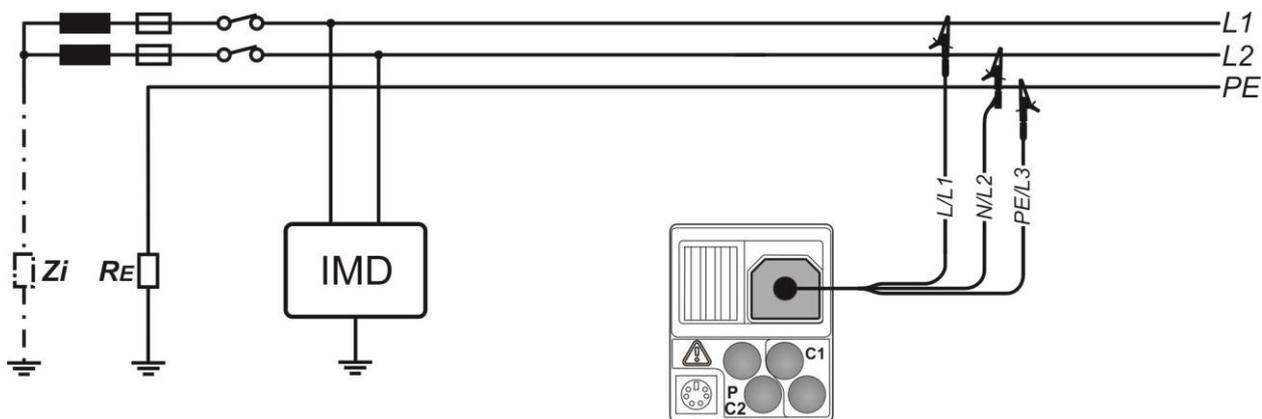
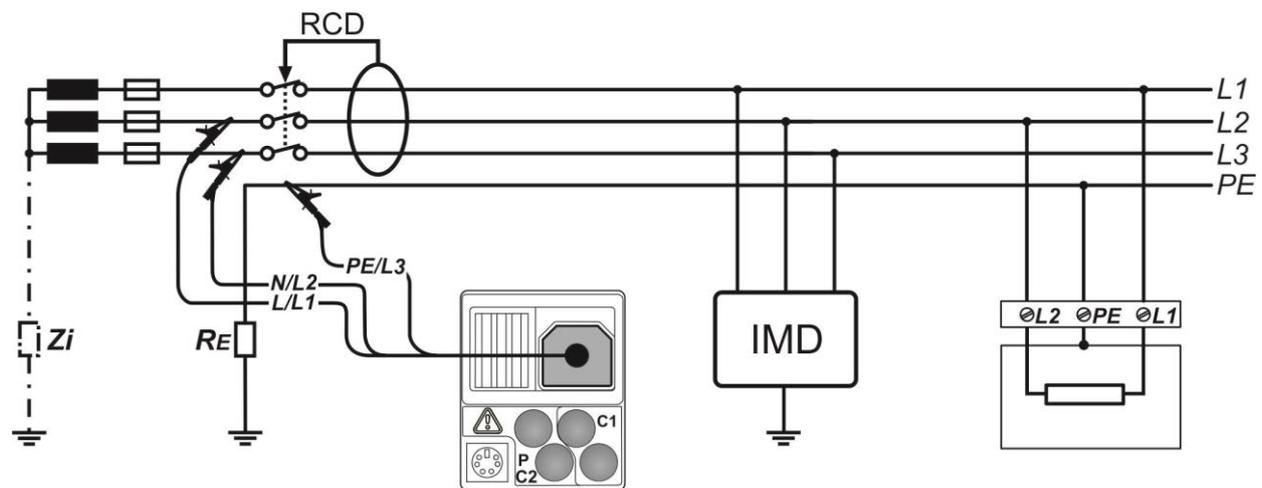

Figure 5.12: Measurement of highest first fault leakage current with 3-wire test lead
Figure 5.13: Measurement of first fault leakage current for RCD protected circuit with 3-wire test lead
- ❑ **Connect** 3-wire test lead or mains measuring cable to the instrument and tested installation (see Figure 5.12 and Figure 5.13).